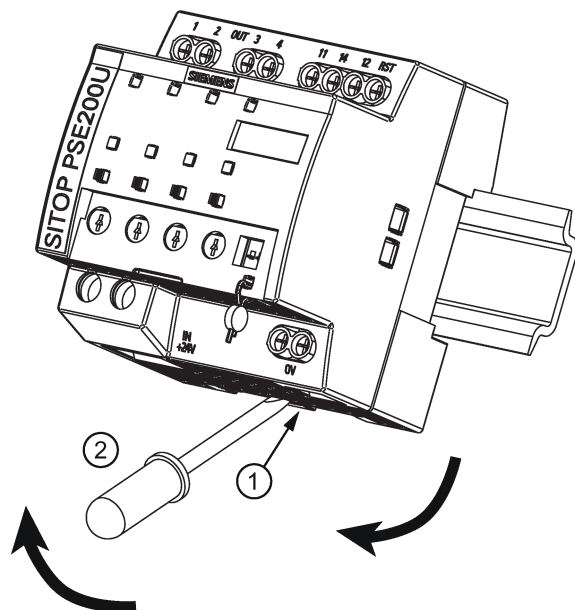

Figure 3-1 Mounting/removal (example): 6EP1961-2BA11
To remove, pull up the slider ① using a screwdriver ② (see Chapter Figure 3-1 Mounting/removal (example): 6EP1961-2BA11) (Page 33)) and disengage the device at the bottom edge of the standard mounting rail. Then you can remove the device from the upper edge of the standard mounting rail.